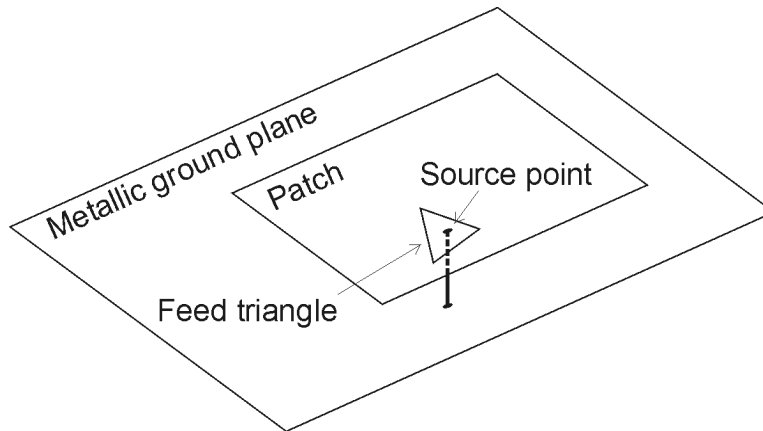

Figure 10-3: Excitation of a patch antenna with a vertical pin
- Select triangle:* When this item is selected, the *Source label* field becomes active. Here one specifies the label of the triangle to excite. The feed point is at the centroid of the triangle (see figure 10-3). If there are more than one triangle with this label, the excitation is placed on the one with the highest element number. Alternatively, the user may select the item *Set source position*, and specify the Cartesian coordinates of the feed point in the *Coordinates of node*, group. (These values are in m and optionally scaled by the SF card.) FEKO will excite the triangle whose centroid is closest to the specified coordinate.
The excitation is shown in figure 10-3. A typical application of the A4 card is given in `example_30a.pre` (*Examples Guide*). It is of course possible to discretise the vertical pin (into segments) and feed one of the segments with a voltage source (A1 card). The advantage of the A4 card is that there are no vertical currents, which results in substantially simpler Green's functions and a significant reduction in computing time.